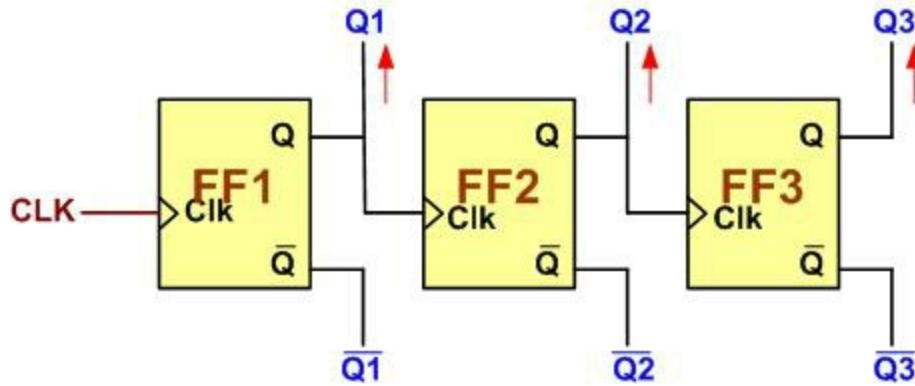

Figure 5-1: A 3-bit Counter
In the digital design course you connected many flip flops (FFs) together to create up counter/down counter. For example, connecting 3 FFs together we can count up to 7 (000-111 in binary). This is called *3-bit counter*. The same way, to create a 4-bit counter (counting up to 15, or 0000-1111 in binary) we need 4 FFs. For 16-bit counter, we need 16 FFs and it counts up to  $2^{16} - 1$ . Figure 5-1 shows the T flip flop connection and pulse outputs for all three flop flops.
Regarding Figure 5-1, notice the following points:
- 4) We can use the circuit in Figure 5-1 to divide clock frequency.
- 5) We can use the circuit in Figure 5-1 to count the number of pulses fed to CLK pin of FF1.